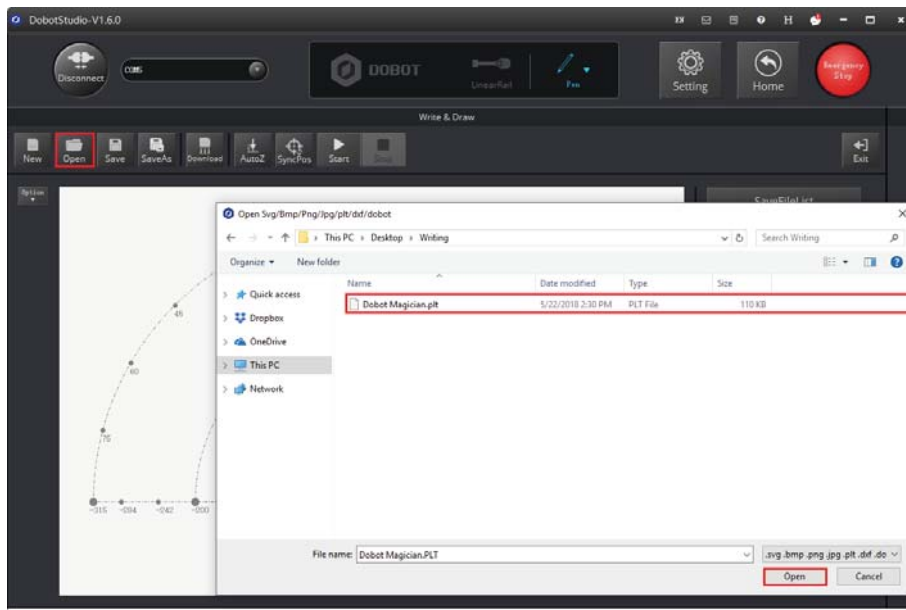

Figure 5.70 Open a PLT or SVG file
- Click **Open** on the **Write & Draw** page to import a built-in PLT or SVG image file from the DobotStudio installation directory *InstallationDirectory\DobotStudio\config\prefab\system\source*, as shown in Figure 5.70. You can also import your custom PLT or SVG image file.